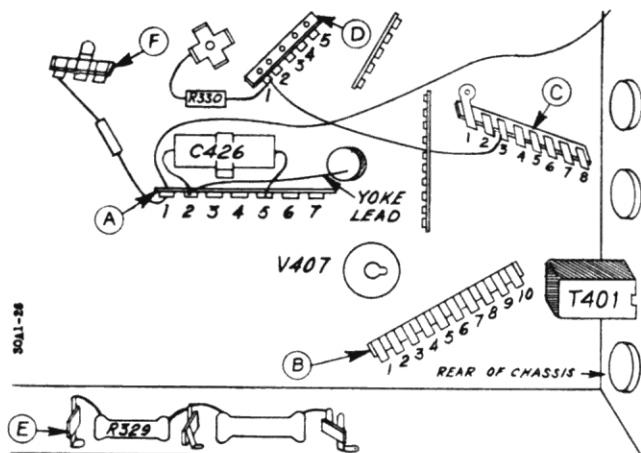
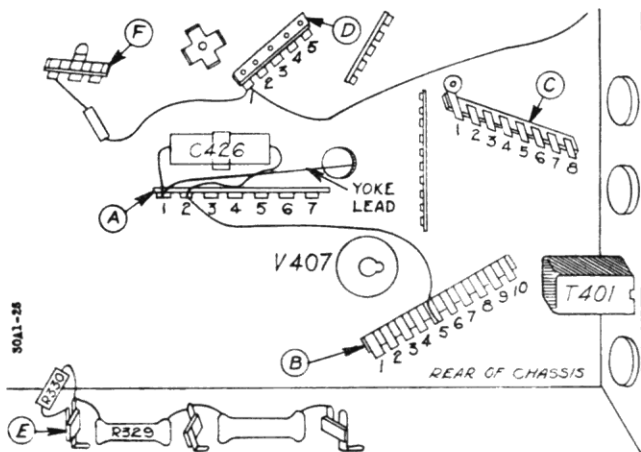

Figure 1-7. Original "Fused Chassis" Connections (Before Wiring Modification).
Figure 1-8. Modified "Fused Chassis" Connections. (After Wiring Modification).
When the fuse change discussed in paragraph 1 was first incorporated in the horizontal output circuit, a small number of the 30A1 chassis were not wired according to the schematic, figure 1-20. This incorrect chassis wiring is shown in figure 1-7.
If a fuse burns out in a chassis wired as shown in figure 1-7, excessive voltage appears across condenser C426. Subsequent failure of C426 may result in damage to other circuit components. Therefore, chassis wired as shown in figure 1-7 must be modified when brought in to the shop. The modified chassis connections are shown in figure 1-8. The necessary modifi-
- \*a. Unsolder the lead of R330 from terminal 1 of tie strip "D" and clip off the other lead on R330 as close to the ground lug as possible. See figure 1-7.
- \*b. Connect R330 between the two terminals of tie strip "E". See figure 1-8.
- \*c. Unsolder the lead from terminal 1 of tie strip "D" and clip off the other end of this lead off terminal 3 of tie strip "C". See figure 1-7.
- f. Clip off the other lead of condenser C426 from terminal 5 (figure 1-7) and reconnect the terminal 2 of tie strip "A" (figure 1-8). It will be necessary to splice a length of tinned copper wire to this lead.
- h. Check wiring per figure 1-8 and figure 1-20 before operating receiver.
\*Due to the substitution of a four-terminal tie strip at "F" in later production, some chassis will not appear exactly the same as shown in figure 1-7. The additional terminal on tie strip "F" was used for the tuner plate decoupling filter in place of terminal 1 of tie strip "A". Since such a chassis connection leaves terminal 1 of tie strip "A" open, steps "a" through "d" of the above modification procedure do not apply. A chassis having the four-terminal tie strip at "F" must be modified by following steps "e" through "h" only.